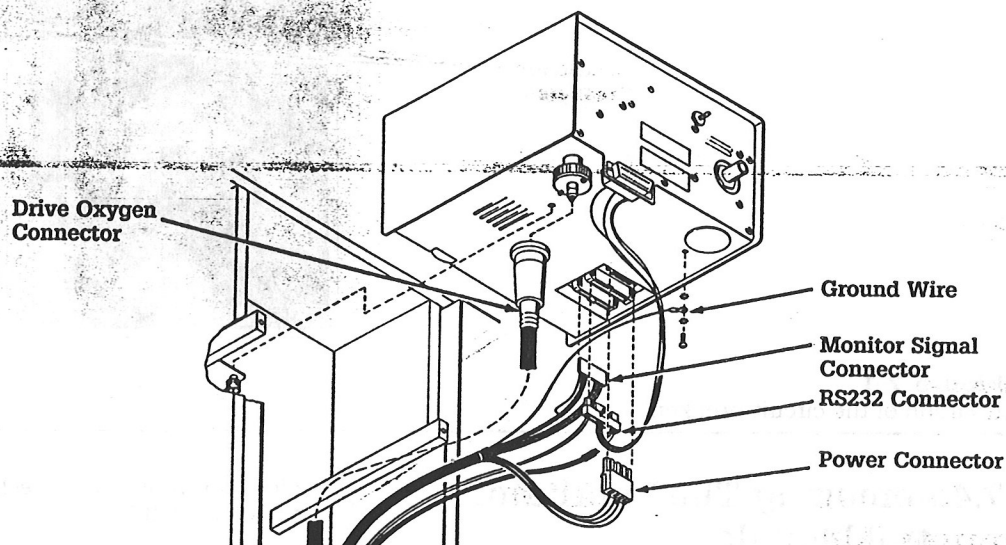

Figure 7-4
9. Slide the control module out the back of the anesthesia machine until the connectors at the module's base are exposed. (See figure 7-4.)
5. A single wire connects the module's chassis to ground. Use two external star washers and a screw to connect this wire to the module. (See figure 7-4.)